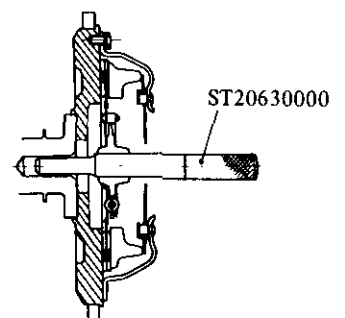

Fig. CL-7 Installing clutch cover assembly
2. Install clutch disc and clutch cover assembly. Support clutch disc and cover assemblies with Clutch Aligning Bar ST20630000. See Figure CL-7.